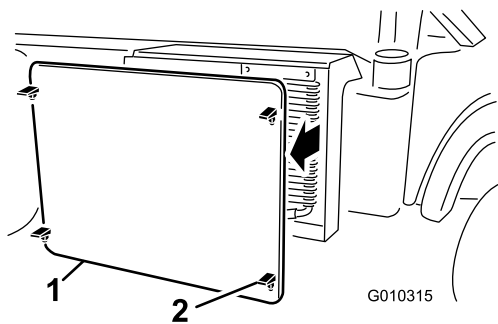

Figure 56
2. Unlatch and remove the radiator screen from the front of the radiator (Figure 56).